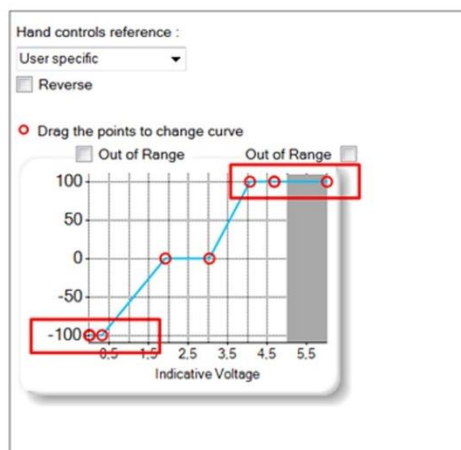

Figure 14 - Absence of the function Out of range
- i** If the "Out of range" boxes are unchecked the actuator will continue to give a maximum value to the wheel [figure 14] in both directions of operation.